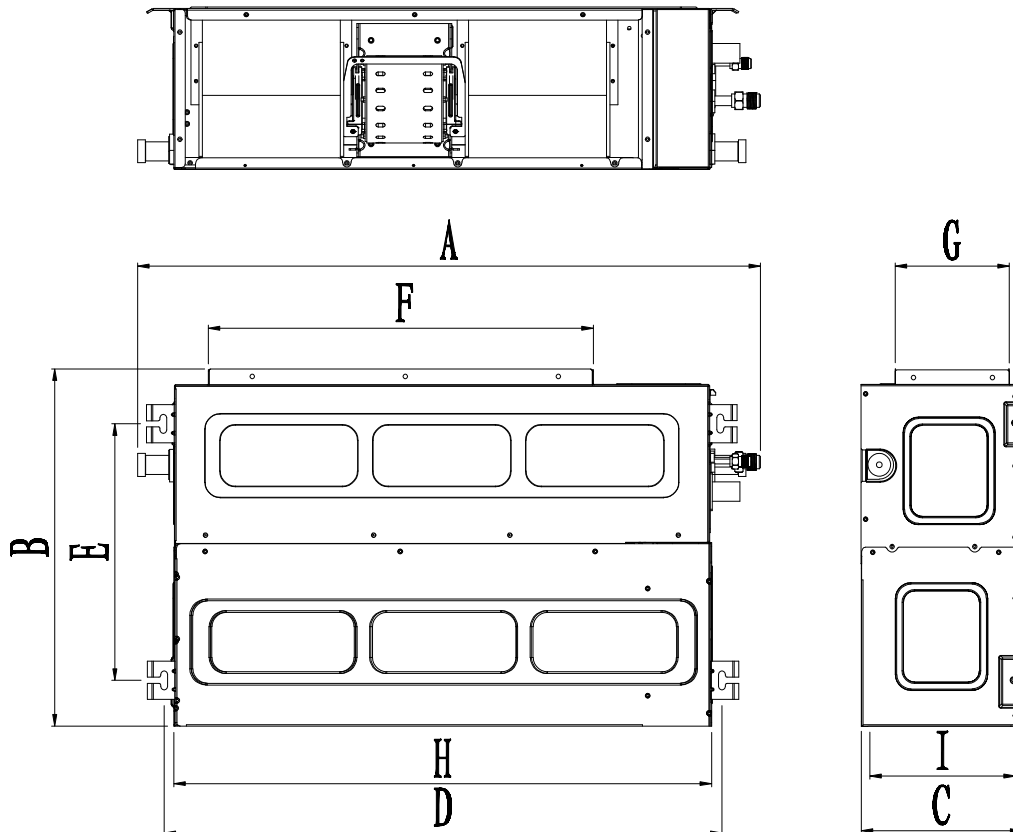
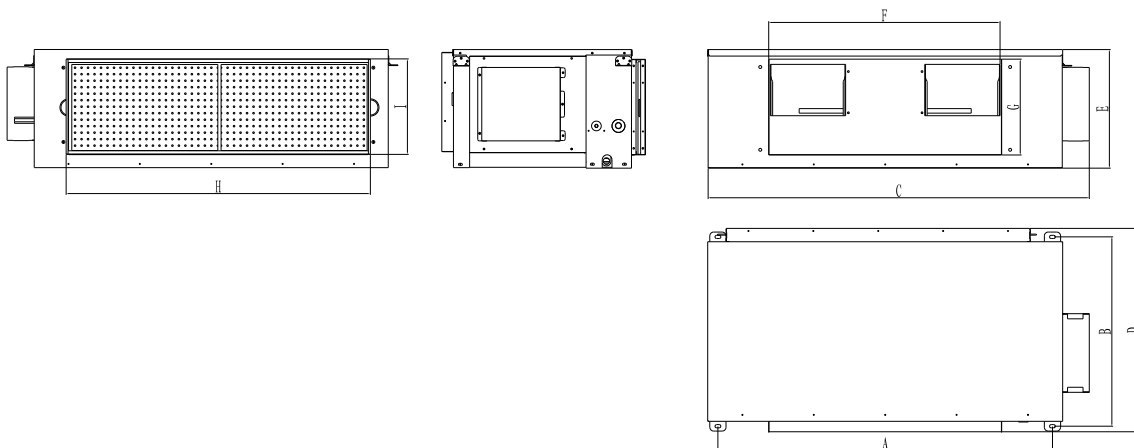

Figure 4
Figure 6
- a. Insert M10 expansion bolt into the hole, then knock the nails into the bolt, for the pitch referring to figure 4, the installation of expansion bolts is shown in figure 6.